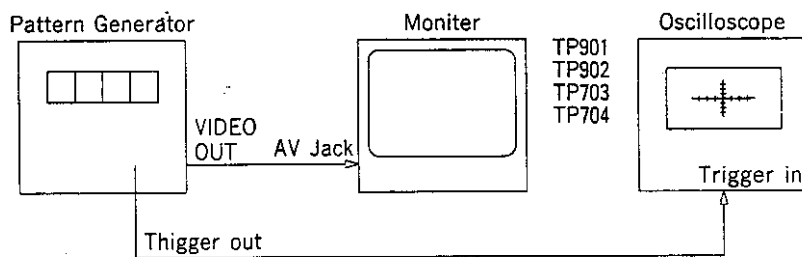

Fig. 15
2. Connect apparatus as shown in Fig. 15.